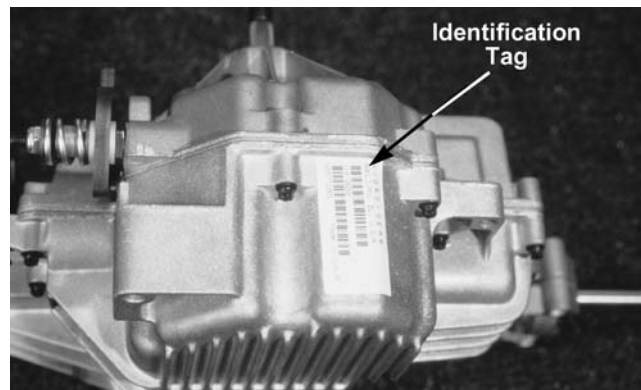
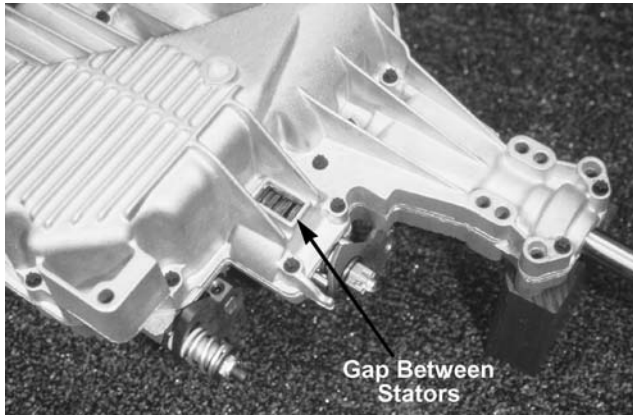

Figure 6-126
Figure 6-127
- C. Serial number. See Figure 6-126.
4. The brake setting may be measured through the brake assembly window of the lower housing. To measure the brake setting insert a feeler gauge between the outside two stators of the brake pack. A gap between the two stators as shown. See Figure 6-126 and Figure 6-127.